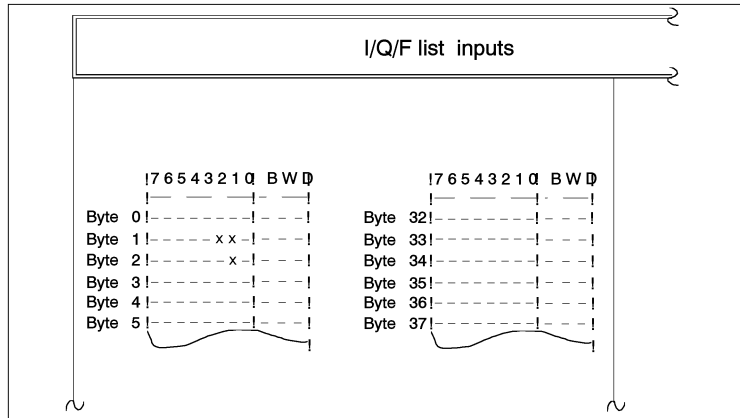

Fig. 3-54 I/Q/F list of the Inputs
- (see Fig. 3-54).
This function outputs the I/Q/F list for the S flags (see Fig. 3-54 "I/Q/F list").